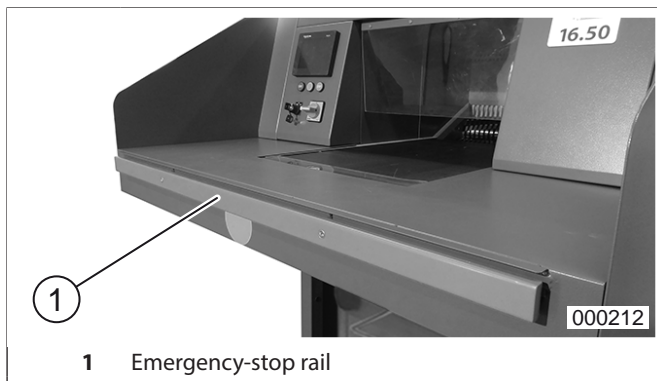

fig. 3 Emergency-stop rail
1. Free the emergency-stop rail (pull out the rail) (fig. 3) on the shredder feed table. Switch on the main switch (fig. 4/2) i.e. to position „1“.